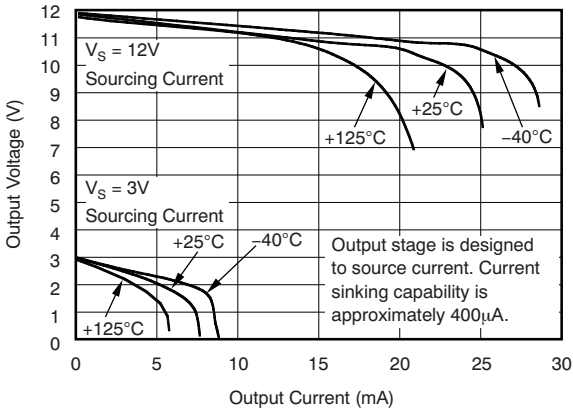

Figure 7. Positive Output Voltage Swing vs Output Current
(1) Offset is extrapolated from measurements of the output at 20 mV and 100 mV V_{SENSE} .
(2) Total output error includes effects of gain error and V_{OS} .
(3) Linearity is best fit to a straight line.
(4) For details on this region of operation, see the Accuracy Variations section in the Device Functional Modes.
(5) See Figure 7.
(6) Specified by design.